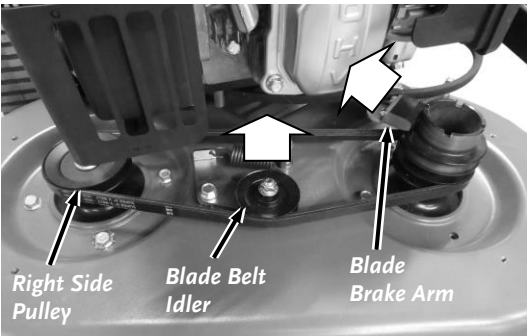

Figure 31
5. Move the Blade Belt Idler back and remove the Blade Belt from the right side Pulley (**Figure 31**).